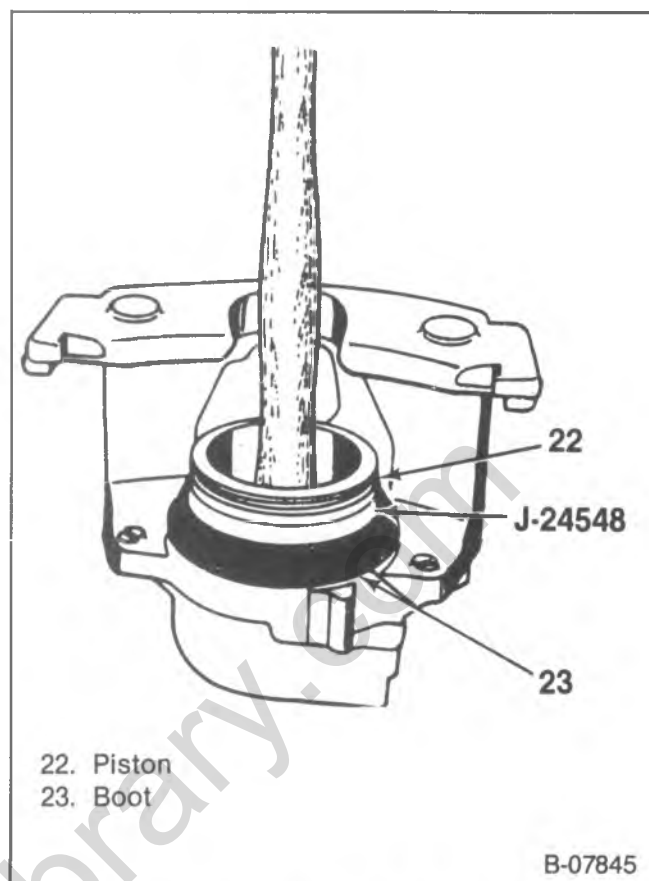

Figure 21—Installing the Piston
4. Piston (22) inside J-24548 (figure 21).
6. Bleeder valve (20).